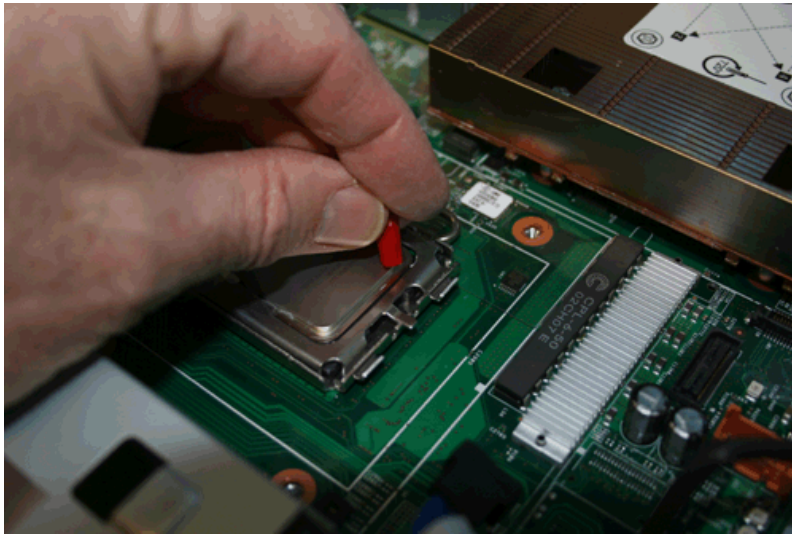

Figure 287. Estimating the position of the thermal grease dots
- a. Apply thermal grease to the top of the microprocessor. Apply nine dots of thermal grease in three rows of three dots each with the outer rows approximately 5 mm from the edge of the microprocessor. The diameter of the cap from the thermal grease syringe is 5 mm, so you can use it to judge the required position of the dots of thermal grease, as shown in Figure 287 on page 263.